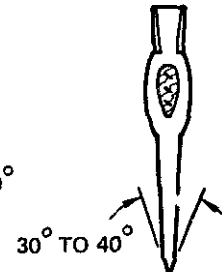

Fig. 9-8 Included angle of hatchet blades.
2. Adjust the tool rest to an angle which will result in grinding the correct angle of bevel. See figure 9-8.